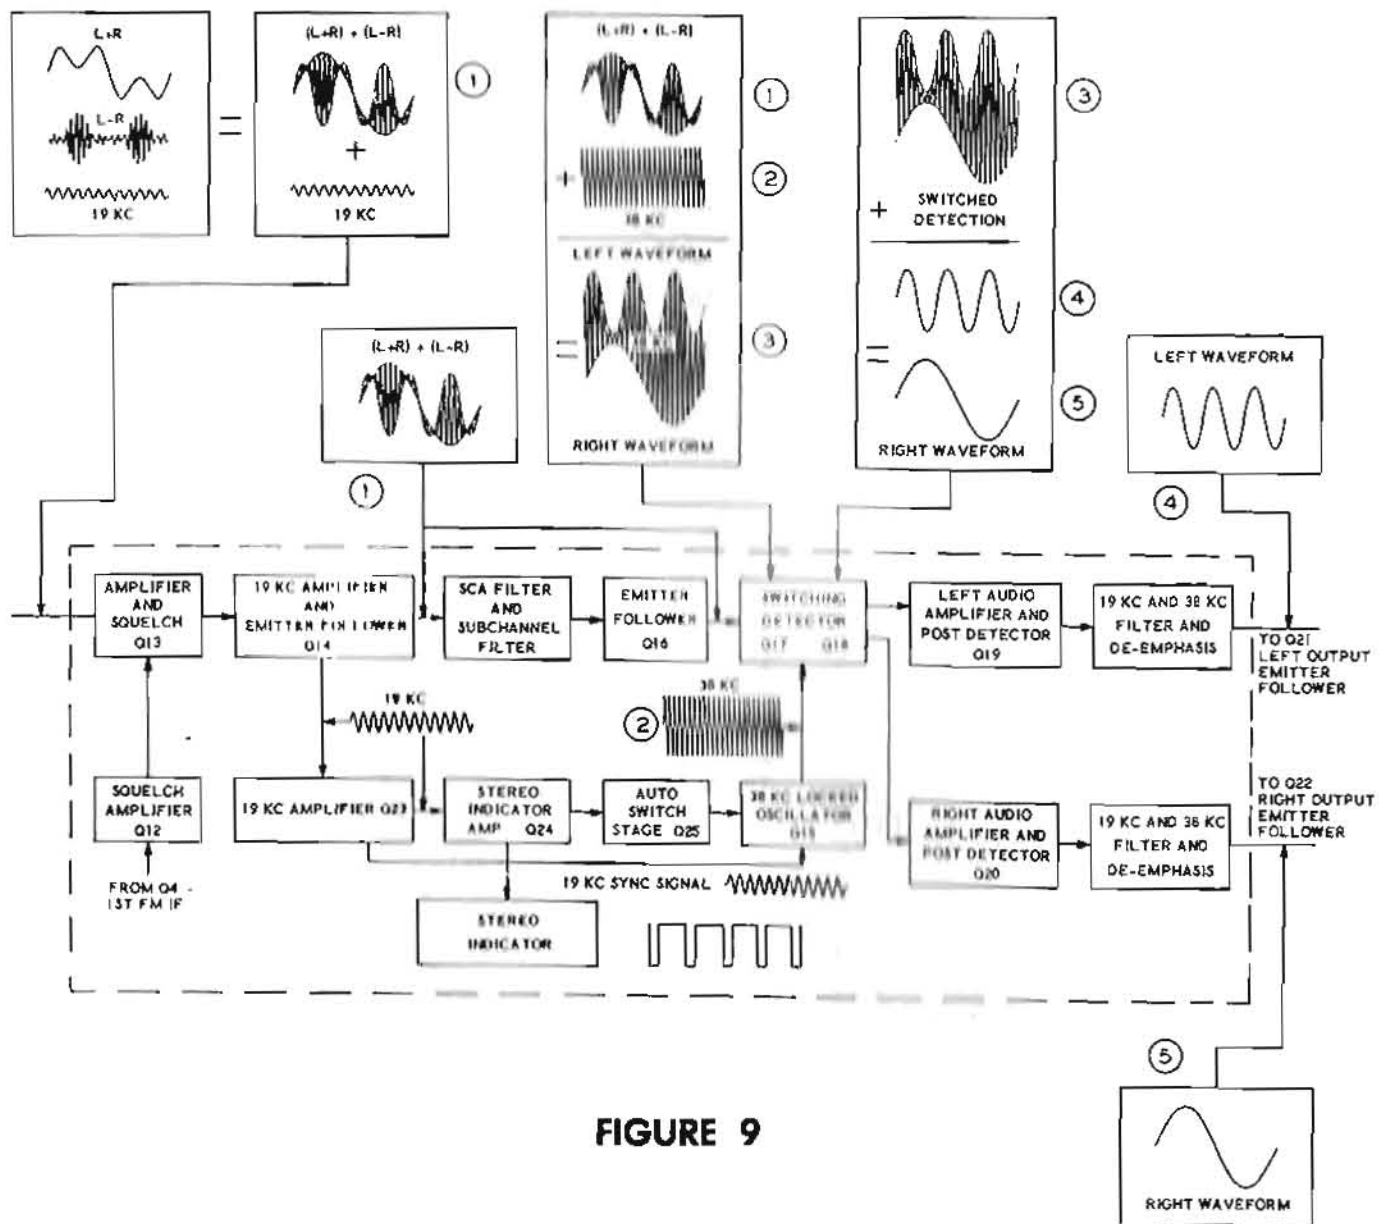

FIGURE 9
Study Figure 9 (fold-out from Page 15) carefully while reading the following paragraphs. In this figure, waveforms have been added to the multiplex converter to help you to understand how it operates.
With no 19 kc signal input (as with monophonic FM) only a small current flows in the collector circuit of Q24, and the indicator lamp does not light. When a 19 kc input signal is received, transistor Q24 begins to conduct on the positive peak of each cycle of the amplified 19 kc pilot signal. Q24 then conducts for only a short period of time, until the time constant of C338 and resistor R353 allows the stage to return to its cut-off condition. The resulting pulses of current are shown beside the stereo indicator in Figure 9. These pulses of current raise the average voltage across the indicator lamp to the 2 volt level, causing the lamp to light.
The switching detector circuit performs several operations simultaneously. The stereo signal (waveform 1, see Figure 9) is coupled to the emitters of transistors Q17 and Q18 from emitter follower Q16. The 38 kc oscillator signal (waveform 2) is coupled to the bases of these transistors through transformer T14. When these signals are combined in this circuit, the 38 kc carrier, which was removed at the transmitter (suppressed carrier transmission) is reinserted back into the stereo signal (waveform 3). The left channel (4) and right channel (5) signals are then detected and coupled to separate output amplifiers Q19 and Q20.